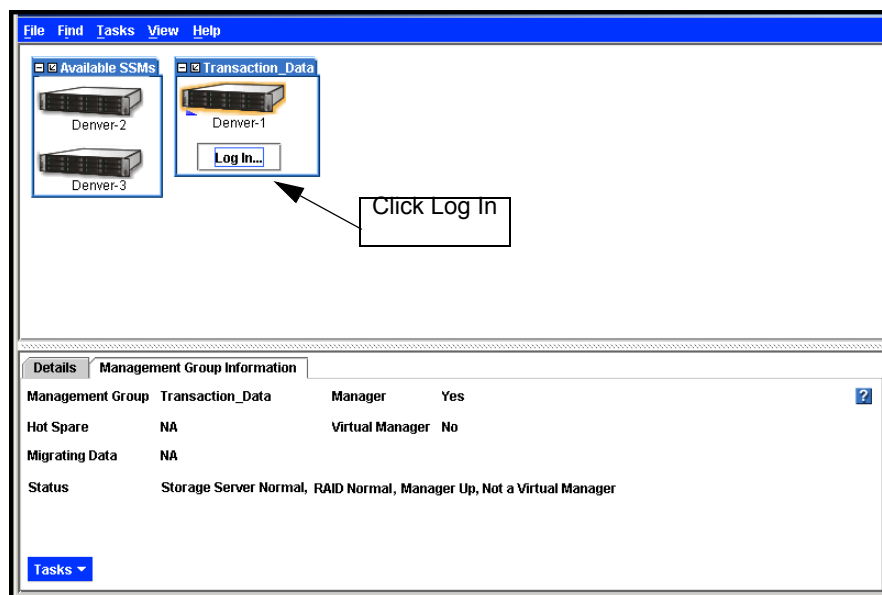

Figure 133. Logging in to a Management Group
1. Click Log In on the management group in the Network View, shown in Figure 133.